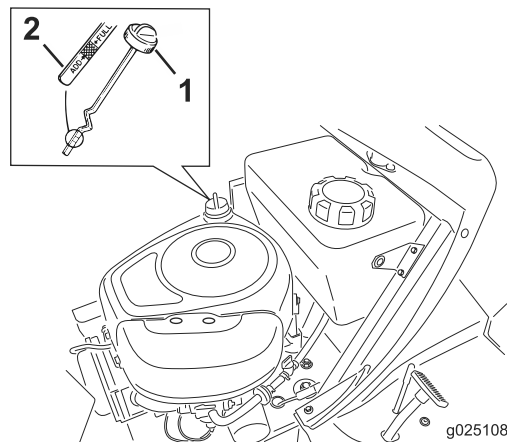

Figure 23
7. Clean around the dipstick (Figure 23) so that dirt cannot fall into the filler hole and damage the engine.
| 8. Unscrew the dipstick and wipe the metal end clean (Figure 23). | |
| 9. Screw the dipstick fully onto the filler tube (Figure 23). | |
11. Clean around the dipstick and unscrew the cap (Figure 23).
12. Slowly pour approximately 80% of the engine oil into the filler tube (Figure 23).